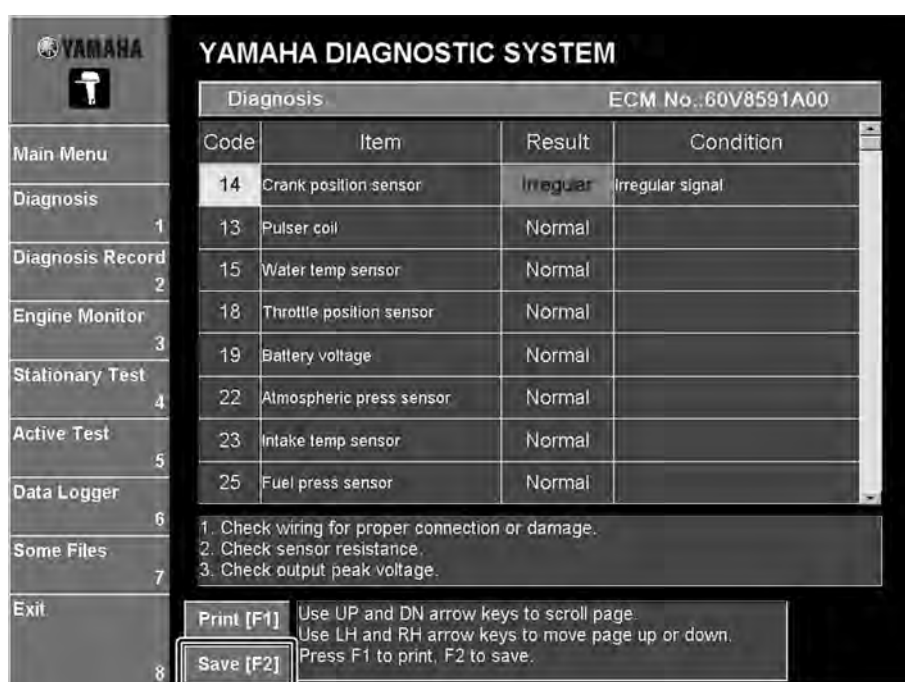

Fig. 37
1. Click the **Save [F2]** button or press the F2 key on your keyboard. The **Save As** dialog box is displayed. (Fig. 37)